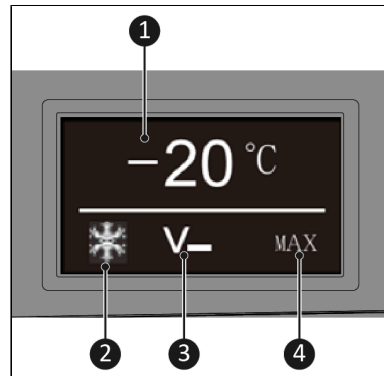

Figure 11.
- Temperature (Figure 11, pos. 1) shows the set or current temperature in the device (Celsius or Fahrenheit).
- Cooling (Figure 11, pos. 2) shows if the device is actively cooling.
- Battery protection (Figure 11, pos. 3) shows the currently selected battery protection mode (low, medium or high).
- Cooling capacity (Figure 11, pos. 4) shows the cooling capacity (MAX or ECO).